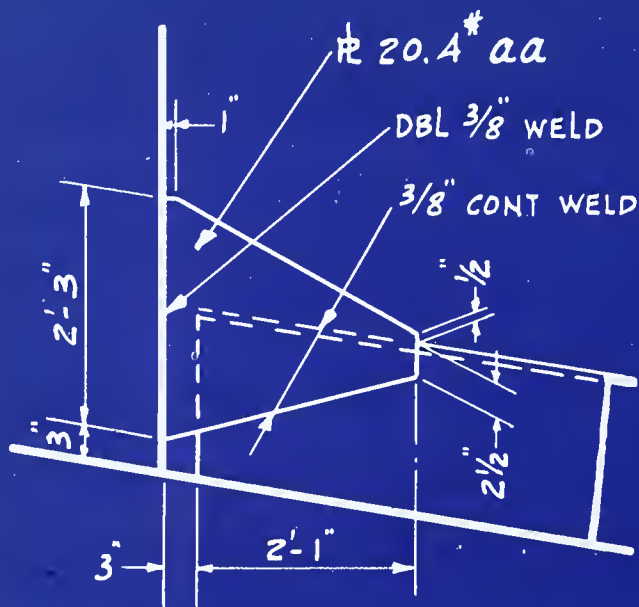

FIG. 23 FLAT PLATE BRKT.
6. What are the specifications of the bracket in Fig. 23? Include the piece mark, weight, width, and length. 6. _____
7. At the small end of the bracket, Fig. 23, what size lap is used and how wide is the bracket at this point? 7. _____